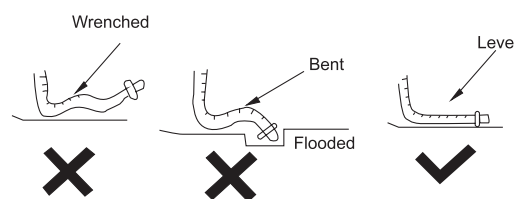

Figure 2
2. Do not wrench or bend the drain hose or flood its end by water. (Figure 2)